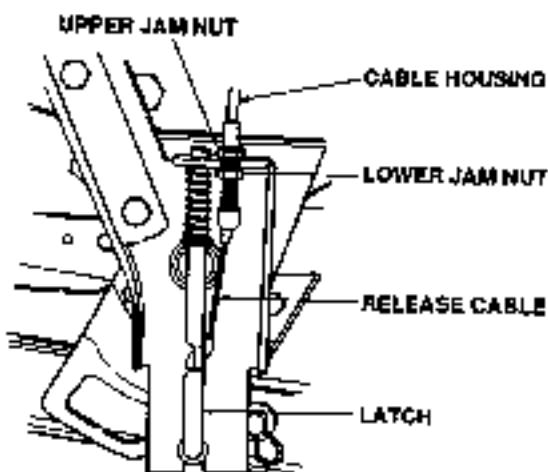

Figure 7-39. Adjusting Latch Release Cable.
- The lift latch is operated by the trigger assembly on the lift handle, through the latch release cable. If the latch cable is not functioning properly, refer to Figure 7-39 and adjust as follows: